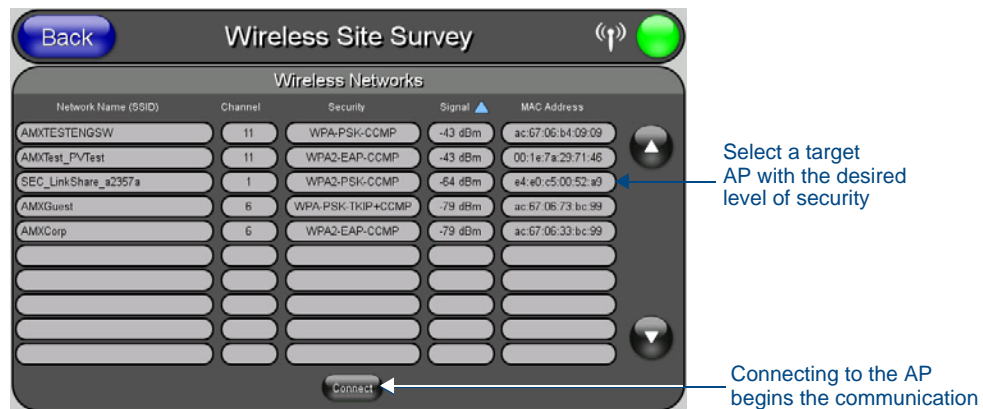

FIG. 19 Wireless Site Survey page
3. Select a **WEP** secured AP from within the *Site Survey* page, and press the **Connect** button (FIG. 19).